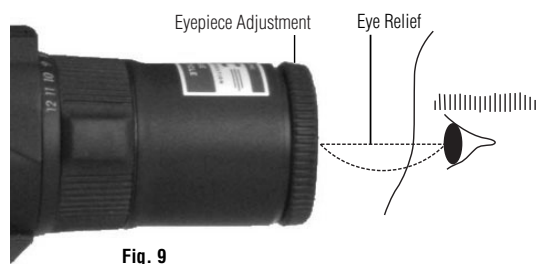

Fig. 9
(1) Look through the eyepiece with your eye positioned about 4 inches away from the eyepiece lens (Fig. 9), and you will see the Nikoplex reticle (Fig. 10), or the BDC reticle (Fig. 11).